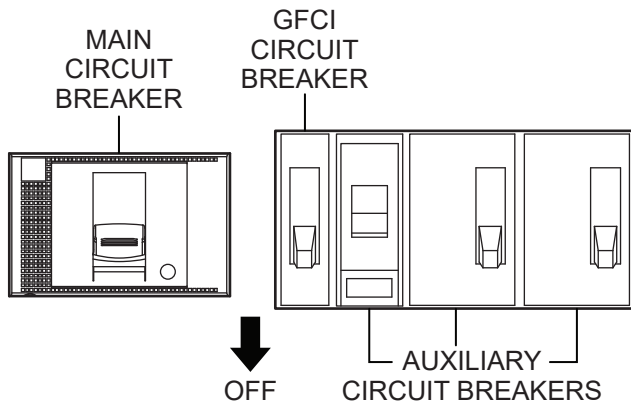

Figure 37. Main, Auxiliary, And GFCI Circuit Breakers (OFF)
2. Place the **main, auxiliary, and GFCI circuit breakers** in the **OFF** position (Figure 37).
1. Place the **main, auxiliary, and GFCI circuit breakers** in the **OFF** position (Figure 37).